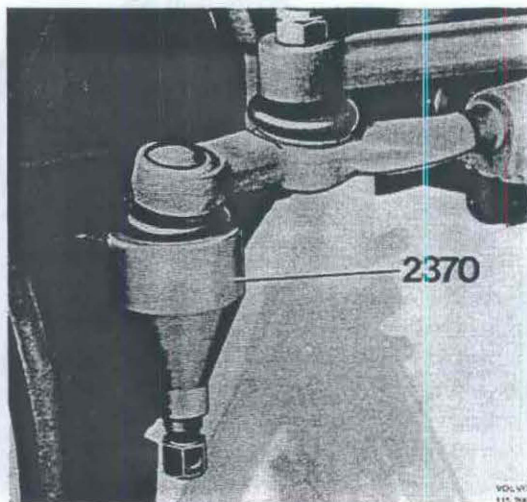

Fig. 46-75. Removing the steering rod
- Drain the oil from the wheel carrier housing. Remove the steering joint from the steering rod with puller 2370, Fig. 46-75.